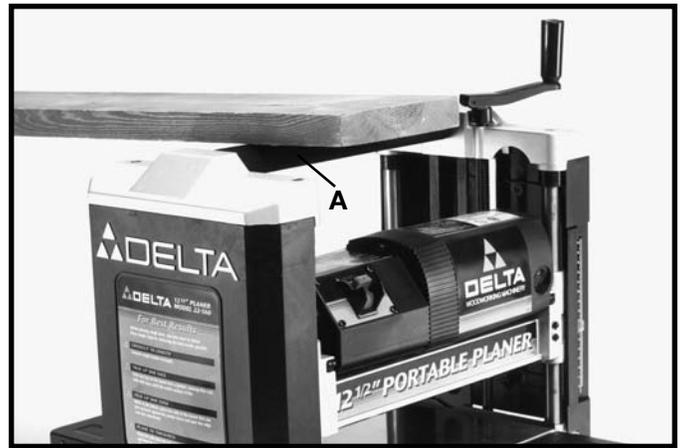

Fig. 26
2. The carrying handle (A) Fig. 26, also doubles as a stock transfer bar for transferring stock from the outfeed to infeed end of the machine. This is helpful when planing long material, as the workpiece can easily be transferred back to the infeed end of the machine for additional cuts.